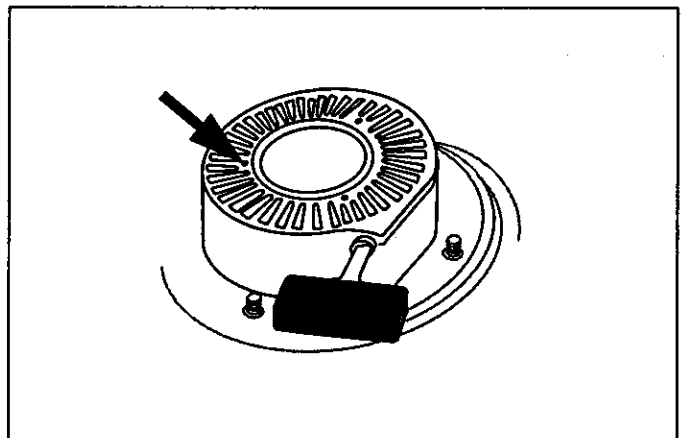

Figure 15. Recoil Starter
- Grasp starter cord handle. See Figure 15.
3. Grasp starter cord handle. See Figure 15.